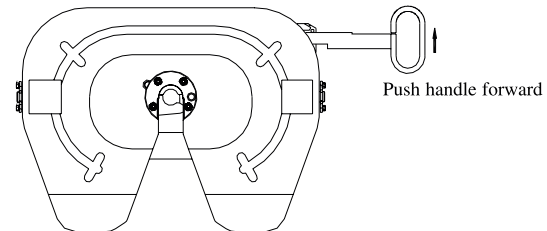

Figure 10 - Opening the fifth wheel
3. Push the fifth wheel handle towards the front of the vehicle by approx 25mm (see Figure 10).